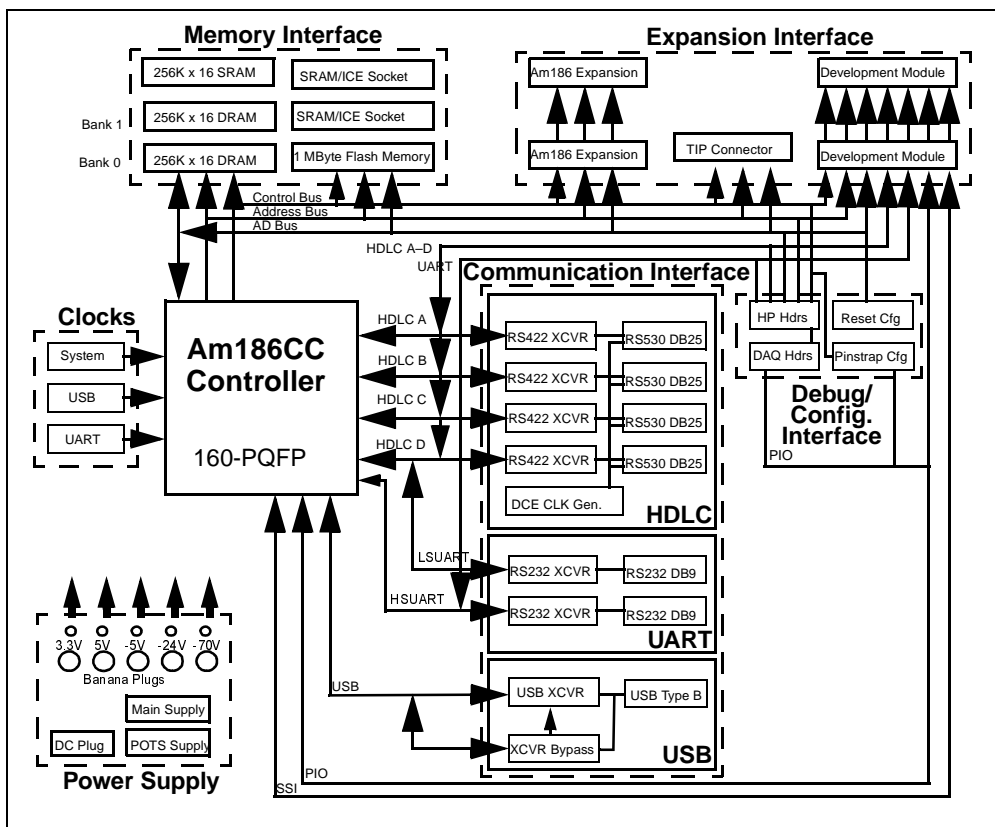
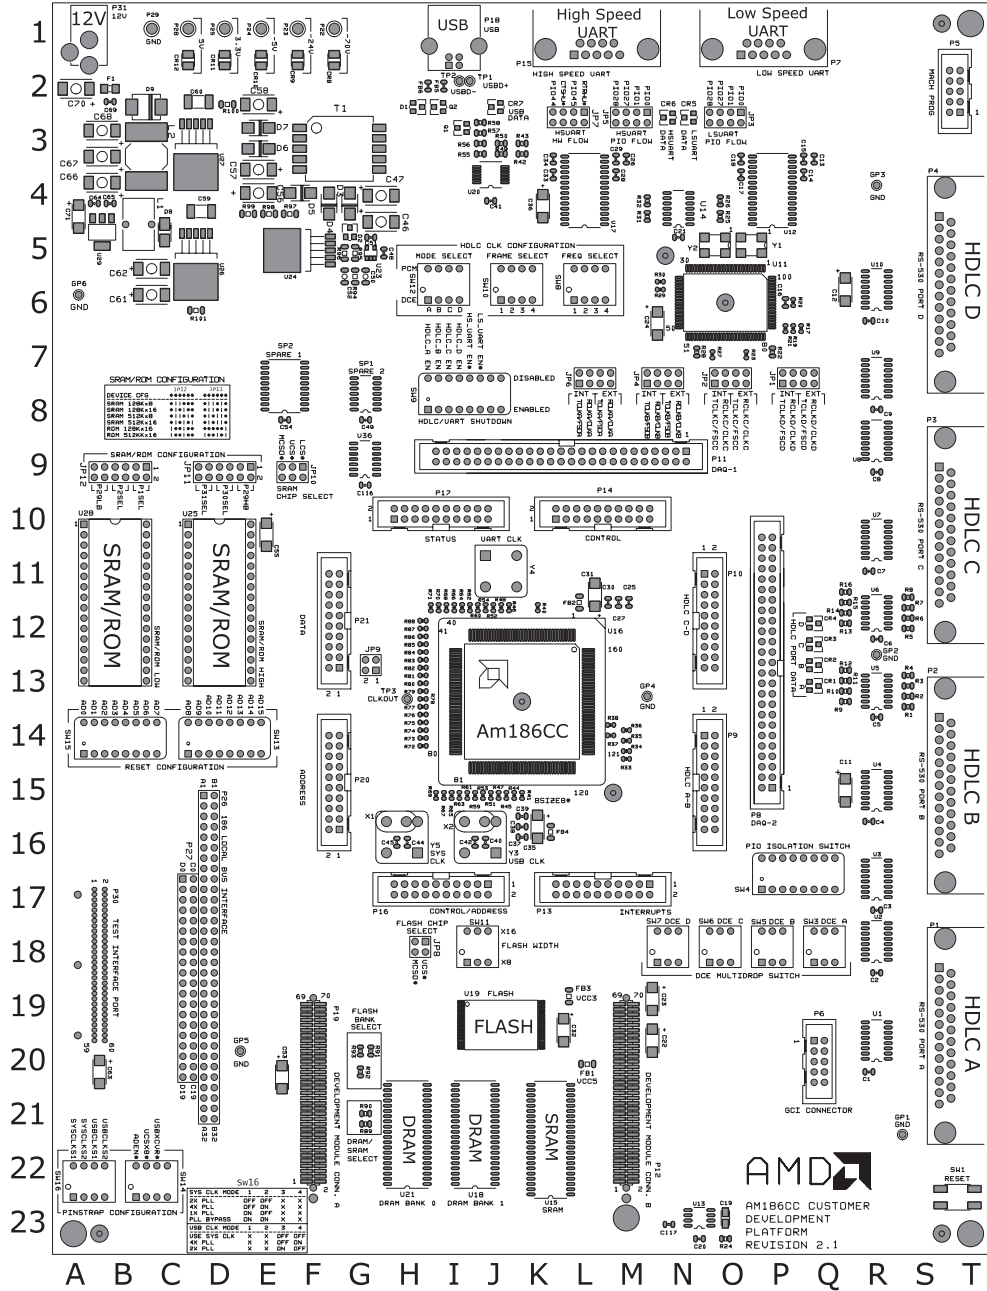

Figure 2-1. Main Board Block Diagram (Same as Figure 0-1)
Figure 2-2. Main Board Layout
2. Connect the other end of the USB cable into the CDP's main board USB connector (see P18 at location I-1 in Figure 2-2 on page 2-3) that is located on the edge of the board near the power supply (see P31 at location A-1).
2. Position the development module above the development module connectors (see P12 and P19 at locations M-22 and F-22, respectively, in Figure 2-2 on page 2-3) on the main board.
4. Plug the other end of the connector into the CDP's main board TIP (see P30 at location A-19 in Figure 2-2 on page 2-3) with the tab facing up.
2. Set the jumpers according to the configuration shown in Table 1-1 on page 1-7, and jumper your chip select on JP10 (see location F-9 in Figure 2-2 on page 2-3).
The Am186CC/CH/CU microcontroller customer development platform is easy to configure to fit your design requirements. Figure 2-1 shows the main board block diagram; Figure 2-2 shows the main board layout and component placement; and Table 2-1 lists the jumpers and switches. Note that the schematics referenced are in the separate schematic manual in your board kit.
- Driving X1 and X2 at location X1 into the integrated oscillator and using the internal PLL (see locations H16 and J16 in Figure 2-2 on page 2-3)
- Driving an external oscillator from Y5 into X1 and using the internal PLL (see location H16 in Figure 2-2 on page 2-3)
- Driving USBX1 and USBX2 at location X2 into the integrated oscillator and using the internal PLL (see location J16 in Figure 2-2 on page 2-3)